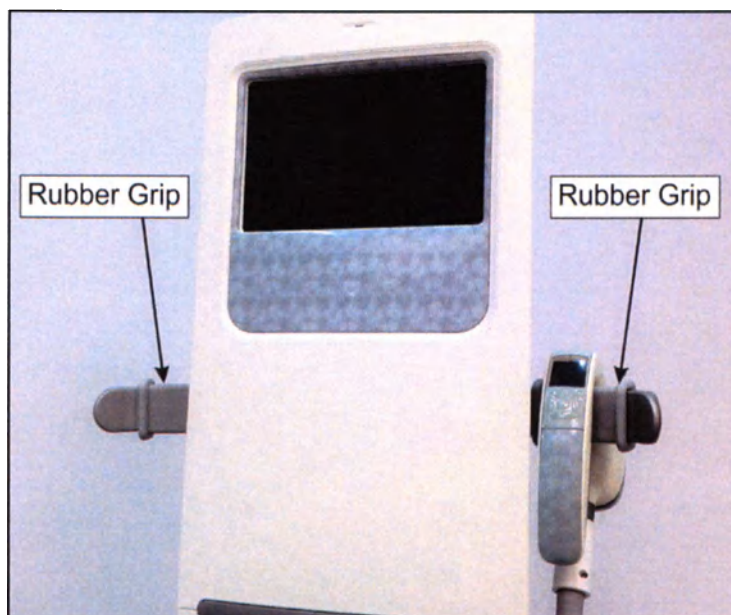

Figure 10: Applicator on Handle
1. Refer to Figure 10: ensure that the rubber grips are installed on both handles. If they came in the accessories box, slip them on to the handles.